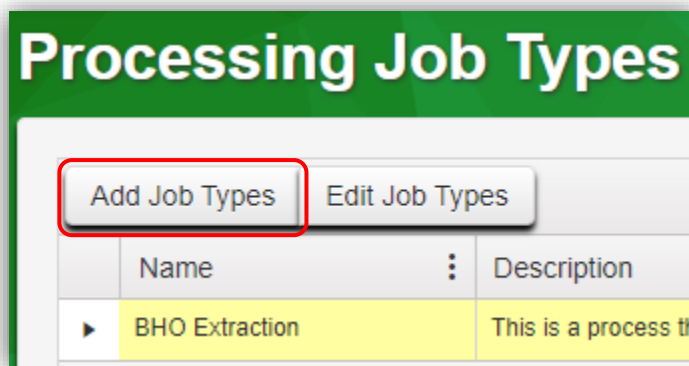

Figure 5: Add processing Job Type
- Once on the Processing Job Types grid, click the Add Job Types button to access the Add Job Types action window – see **Figure 5**.